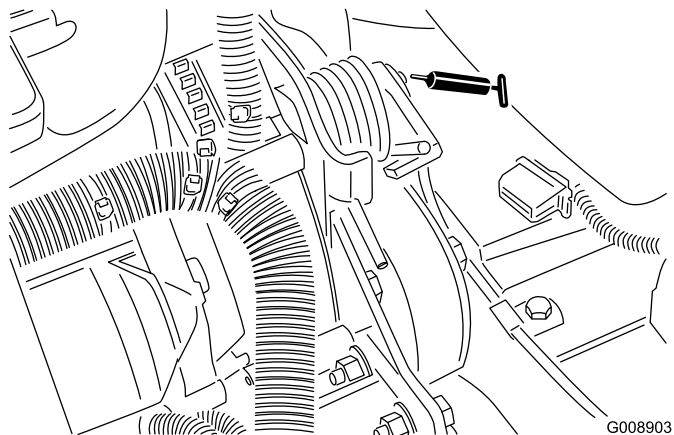

Figure 48
- Belt tension pivot (Figure 48)